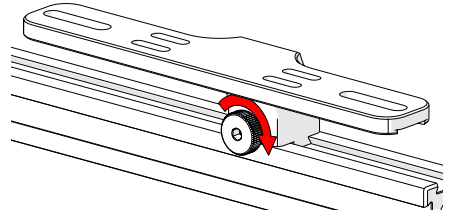

Fig. 272 - Tighten knob
2. Tighten the knob to lock the preamp bracket in place (*Fig. 272*).